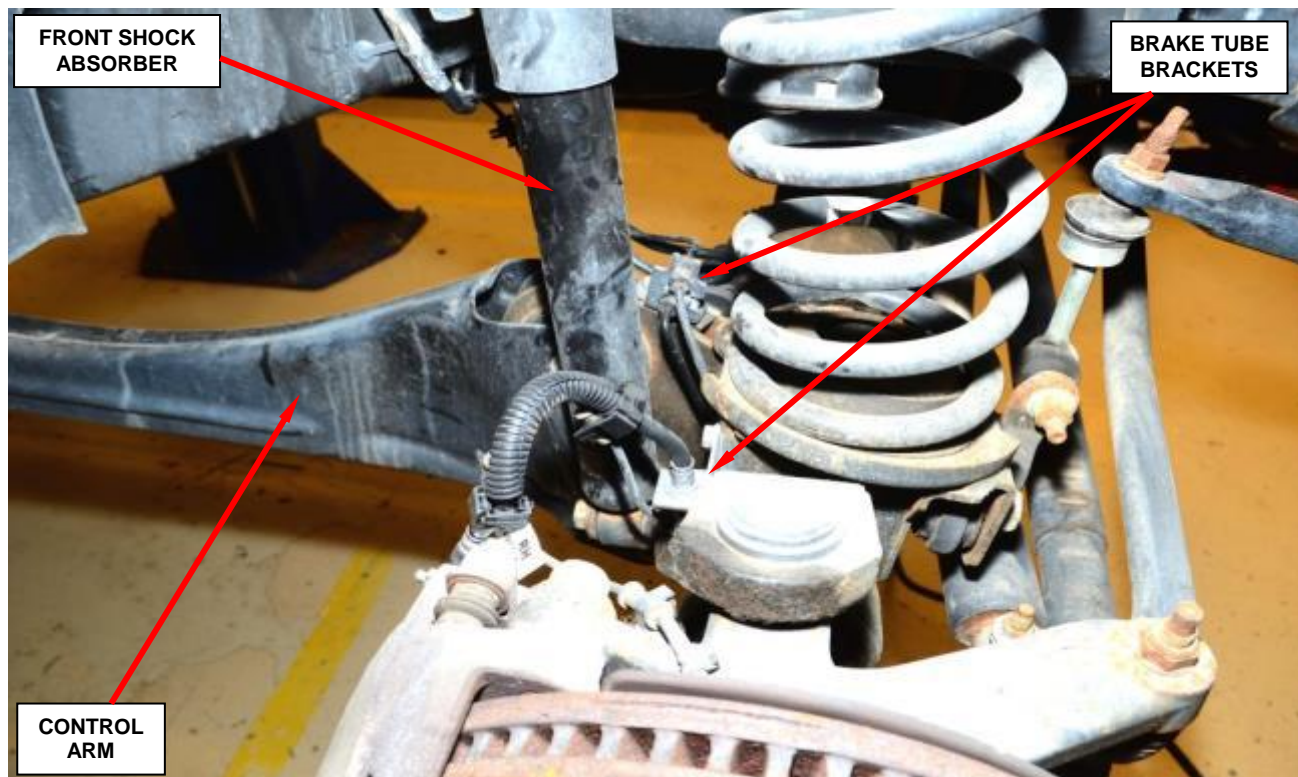

Figure 1 – Brake Tube Brackets
5. Remove and save the brake tube bracket bolt from the right and left control arm brackets (Figure 1).
6. Remove and save the brake tube bracket bolt from the right and left coil spring lower bracket (Figure 1).